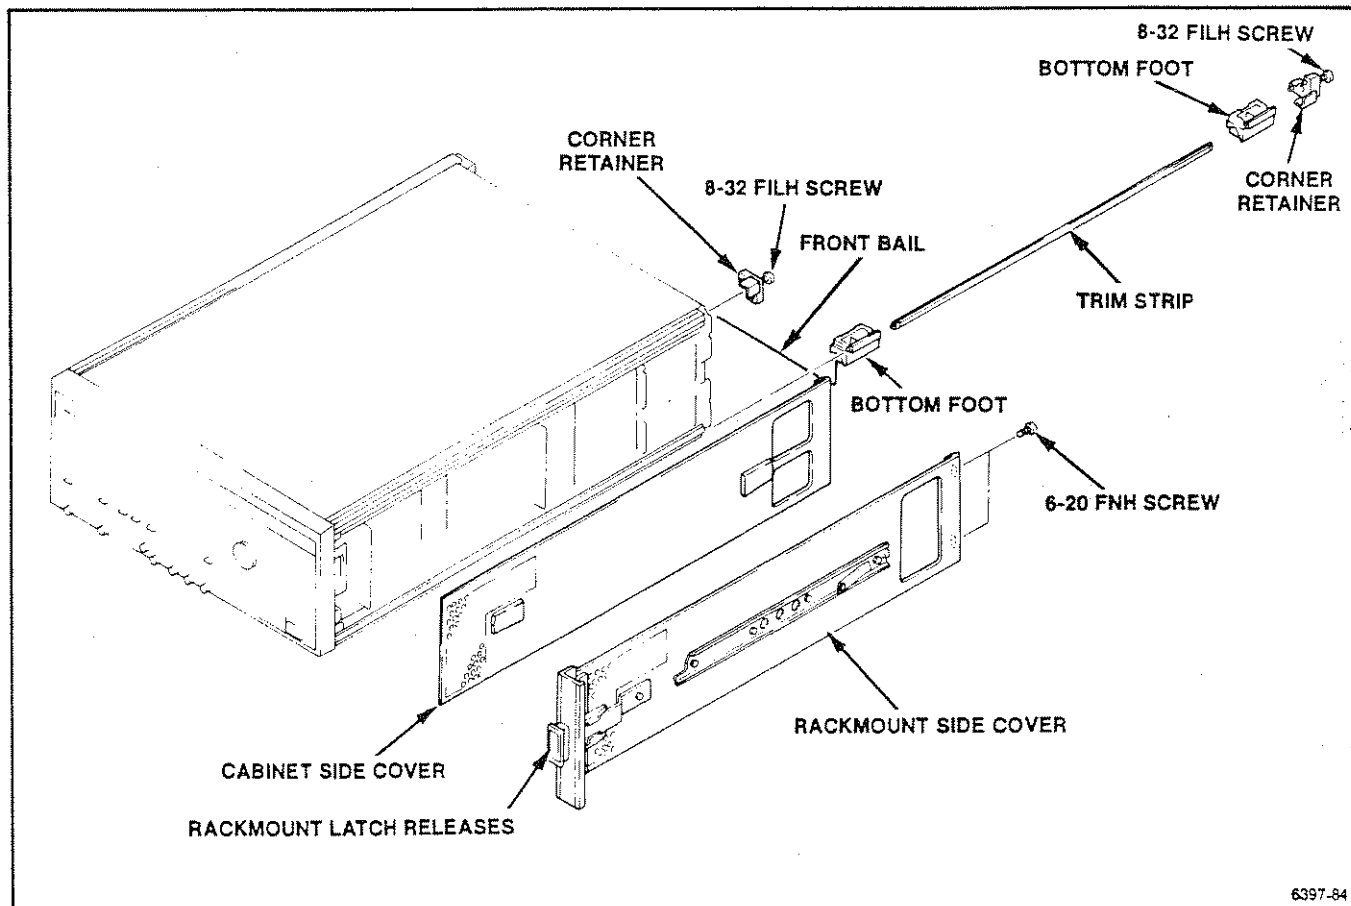
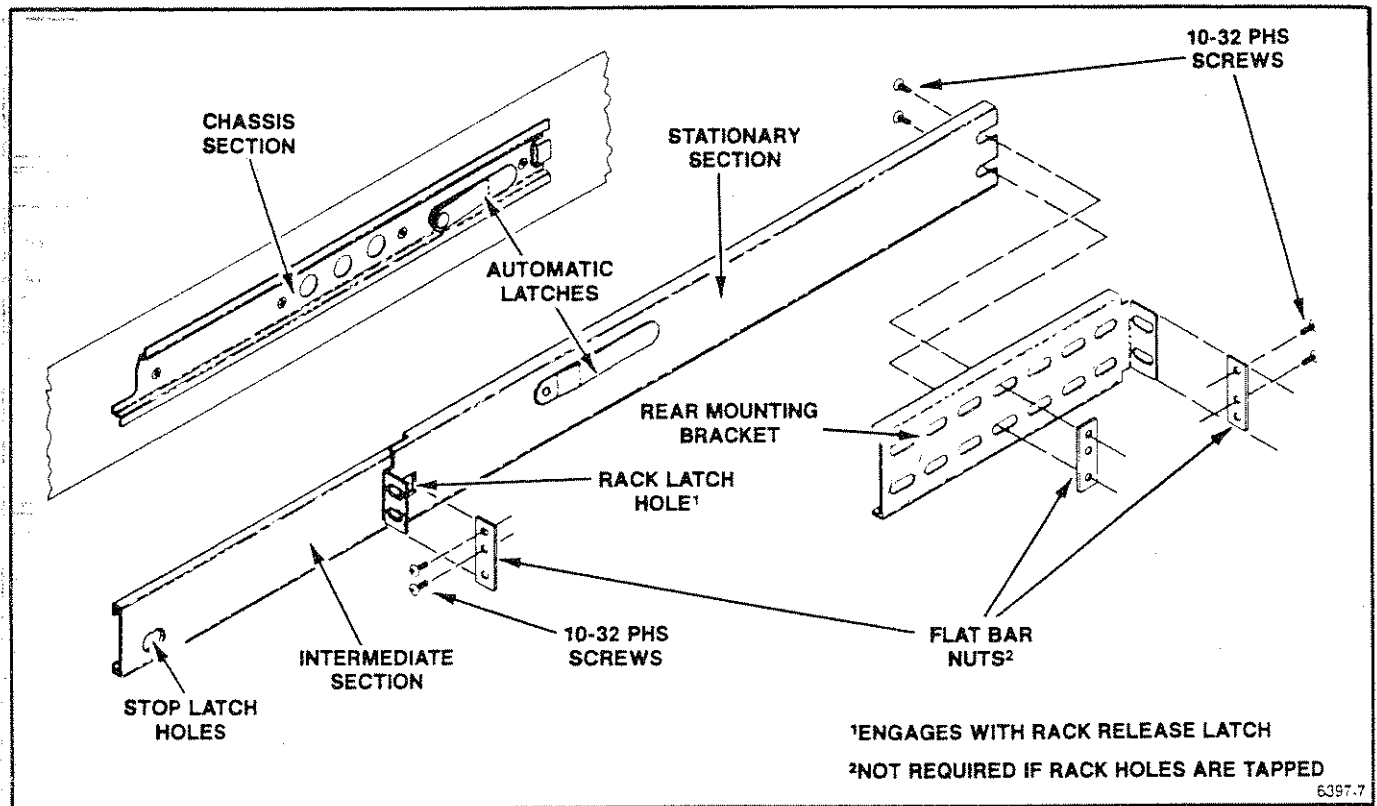

Fig. D-8. Cabinet-to-rackmount conversion.
Fig. D-9. Rackmount assembly sections.
The rackmount kit contains new Rackmount Side Covers (Fig. D-8), two rackmount assemblies, and mounting hardware. Each rackmount assembly consists of three sections: a Chassis Section, an Intermediate Section, and a Stationary Section (Fig. D-9). When the kit is received, the Chassis Section of each assembly is already mounted on its associated Rackmount Side Cover, and the remaining two sections are assembled and wrapped together.
1. Remove the left and right Cabinet Side Covers (See removal procedure earlier in this section. Also see Fig. D-8.
2. Remove the Bottom Feet (Fig. D-8) at each of the four corners of the bottom panel. They are removed by sliding them toward the rear of the instrument. Remove the front bail with the front feet.
3. Remove the top and bottom trim strips on both sides (Fig. D-8). They are removed by sliding them toward the rear of the instrument.
Remember the left side is identified when facing the front panel of the instrument. To identify the left Rackmount Side Cover, note that (1) when the Chassis Section is installed, the small notch at the front of the section is located at the top, (2) the Automatic Latch is located closest to the bottom of the section when installed (Figs. D-8 and D-9), and (3) the screw holes in the Rackmount Handles are at the top.
Remember the right side is identified when facing the front panel of the instrument. To identify the right Rackmount Side Cover, note that (1) when the Chassis Section is installed, the small notch at the front of the section is located at the top, (2) the Automatic Latch is located closest to the bottom of the section when installed (Figs. D-8 and D-9), and (3) the screw holes in the Rackmount Handles are at the top.